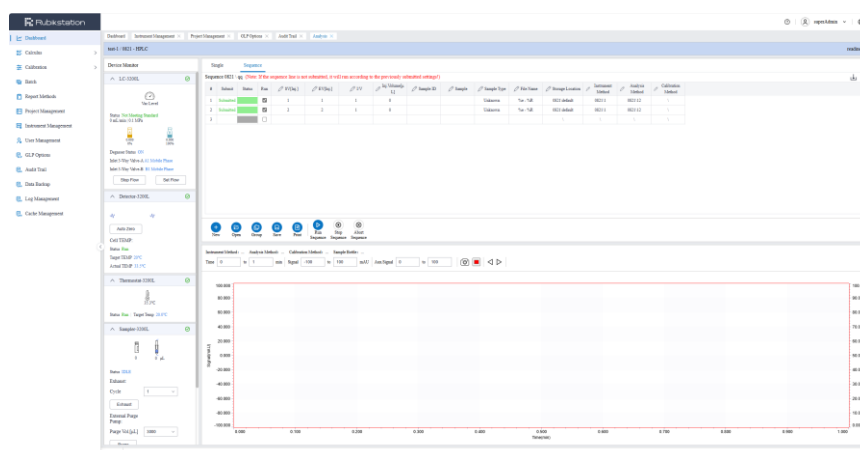

Figure 4-2 Sequence Analysis
- 1) Click on "Sequence" to enter the sequence analysis window, as shown in Figure 4-2.